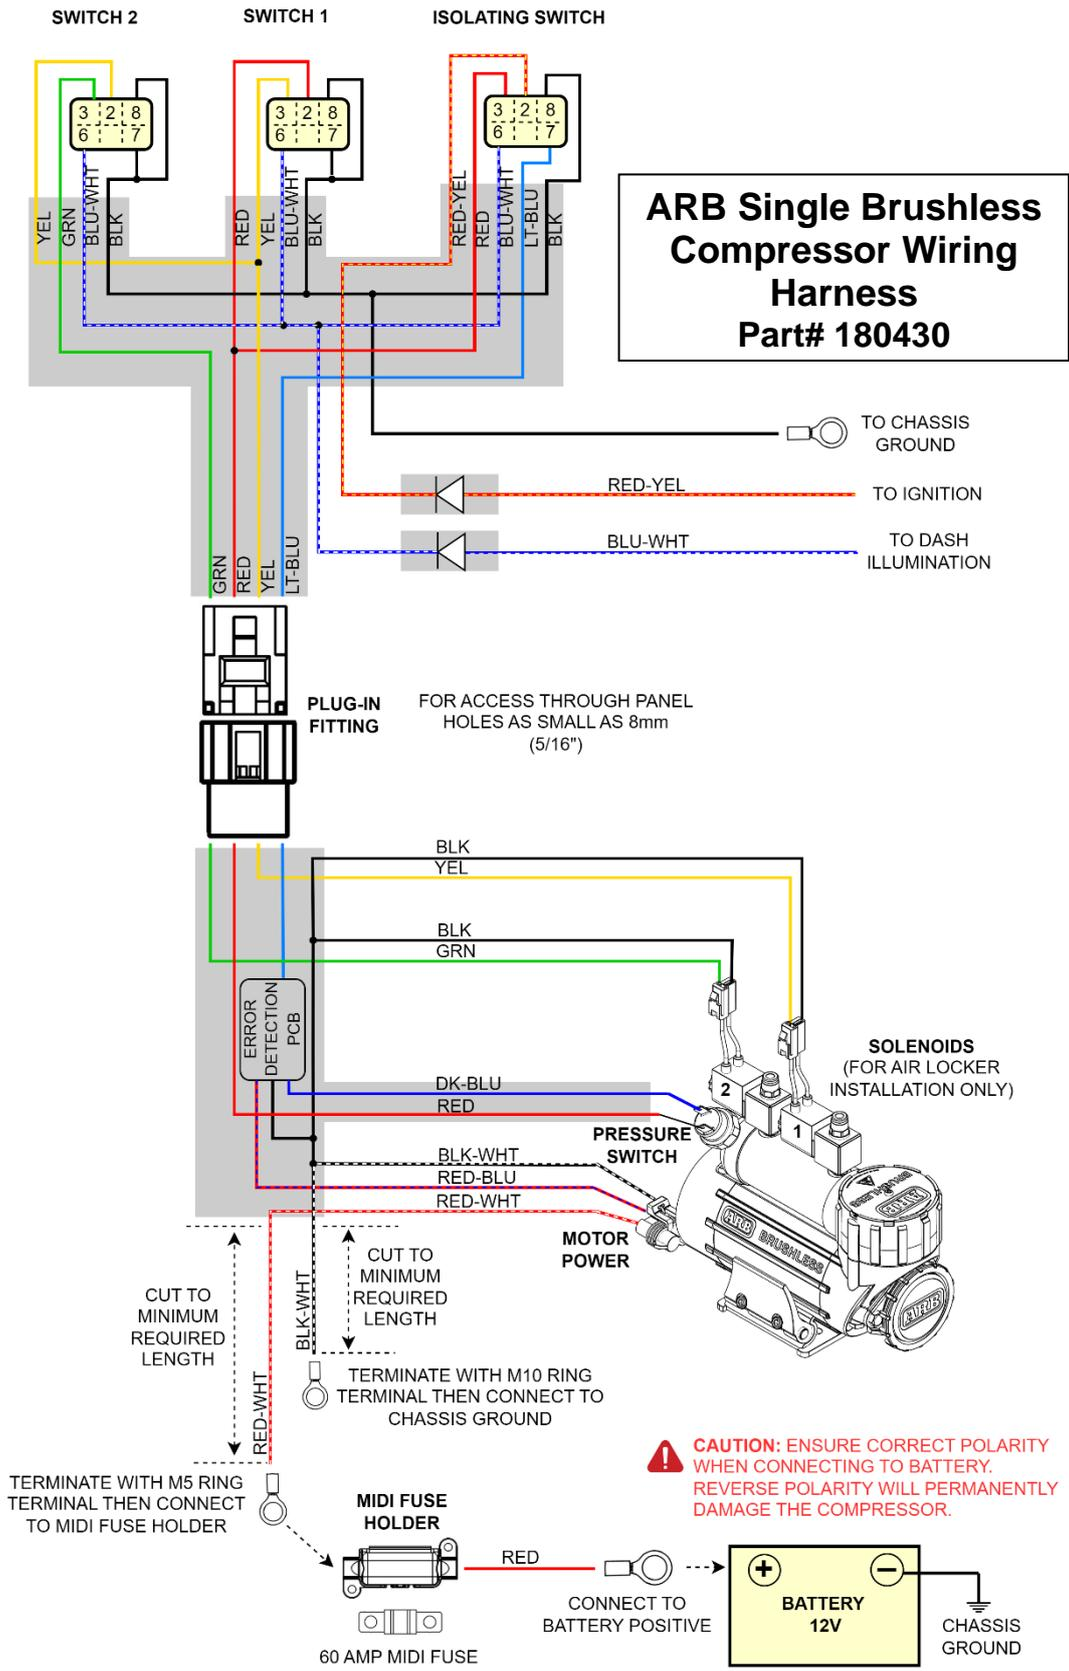
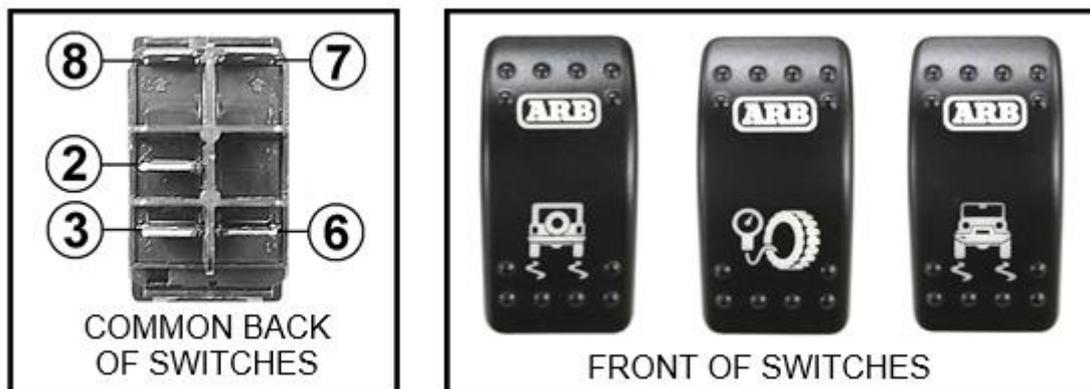

Figure 15. CKBLA12 Air Compressor wiring diagram (180430)
Figure 16. Switch terminal designations
- Consulting the wiring diagram (Figure 15) for wire colours, and the switch terminal illustration (Figure 16), plug each of the female spade terminals onto their appropriate switch terminal.